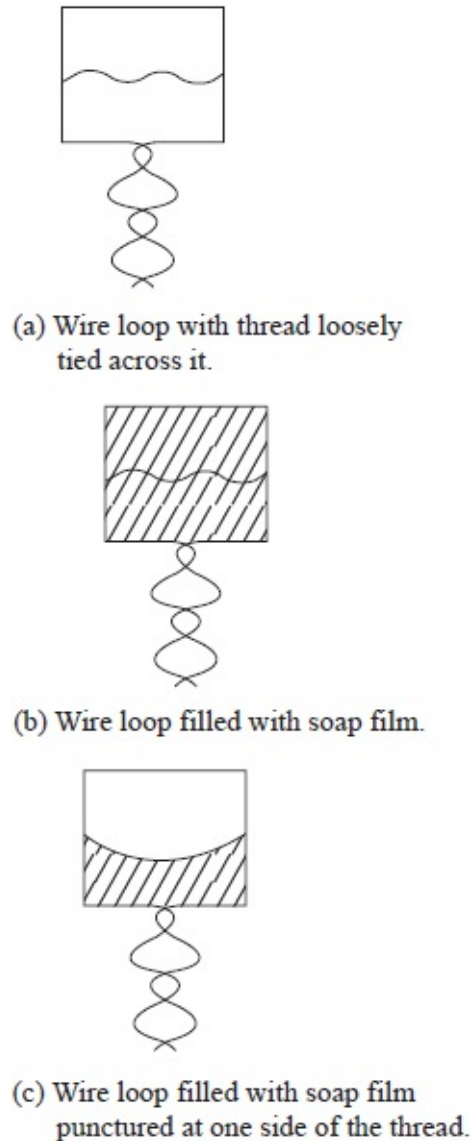

Fig. 3.18
- Tie a thread loosely across it, as in figure 3.18 (a).
- Dip the loop in a soap solution and bring it out so that the loop is filled with a soap film, see figure 3.18 (b).
When the film is broken on one side, the thread assumes a perfect curve, see figure 3.18 (c).
In figure 3.18 (b), the thread lies in any position in the soap film because the thread is being pulled on both sides by equal forces of surface tension. However, when one side of the film is broken, the surface tension acts only on one side of the thread. As the water tries to make its surface as small as possible, it pulls the thread in such a way that it forms a perfect curve. The soap film exhibits surface tension.